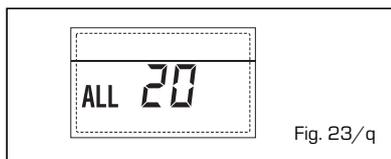

Fig. 23/q
- ANOMALIA GUASTO SONDA MANDATA PRIMA ZONA MISCELATA "ALL 21" (fig. 23/r)